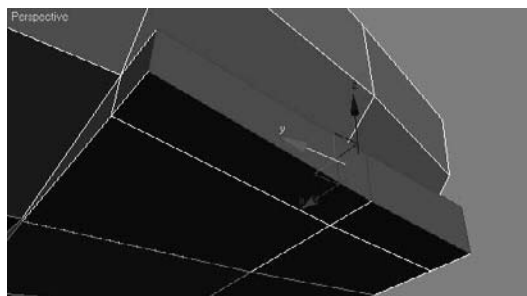

Figure 5.56
5. Select the polys on the side of the extruded polygons and extrude them with an Extrusion Amount of 0.6, as shown in Figure 5.56.